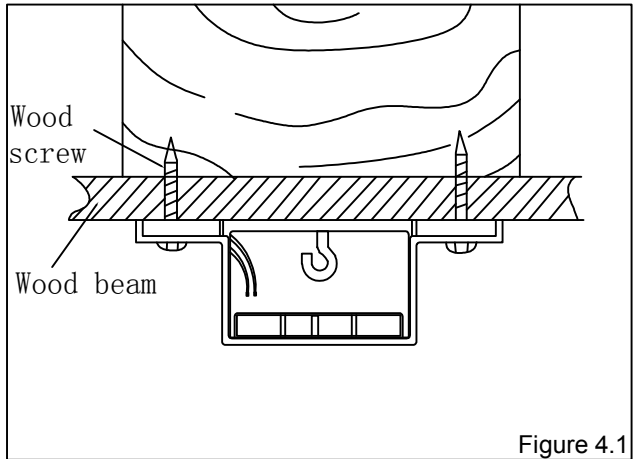

Figure 4.1
- For Wooden Ceiling: Drilling a pilot hole in your ceiling with the power drills first, then secure the bracket with wood screws. (Figure 4.1)